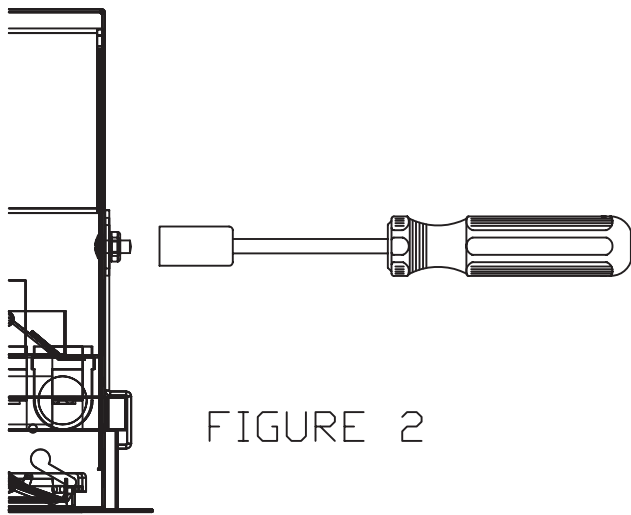

FIGURE 2
3. PRESS CLIP DOWN UNTIL IT MAKES CONTACT WITH UPPER SURFACE OFF TEE BAR & TIGHTEN NUT (FIGURE 2)